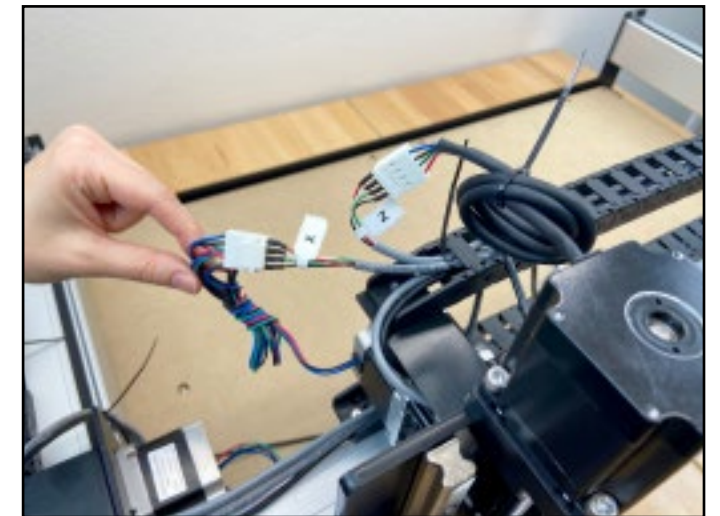

Figure 8-9
1. Connect the X- and Z-motor leads to the labeled gray 4-pin extension cables. See **Figure 8-9**.